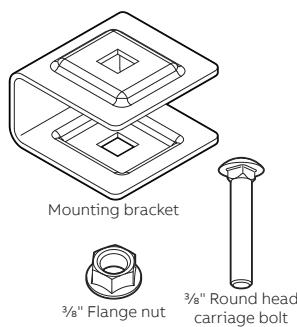

Figure 2
- Rung mounting hardware (Figure 2)